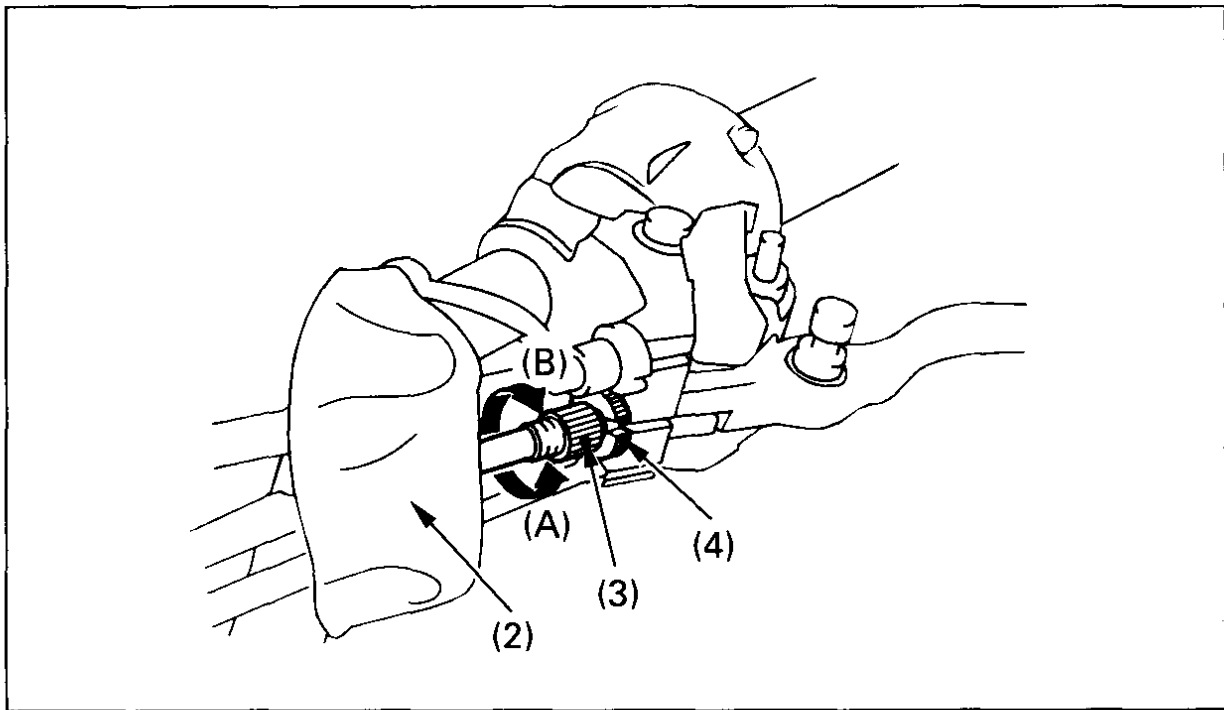

Fig. 4-18 (1) Dust cover (A) Decrease free play
2. Pull back the dust cover (2), (Fig. 4-18). Loosen the lock nut (4) and turn the clutch cable adjuster (3). Tighten the lock nut (4) and check the adjustment.